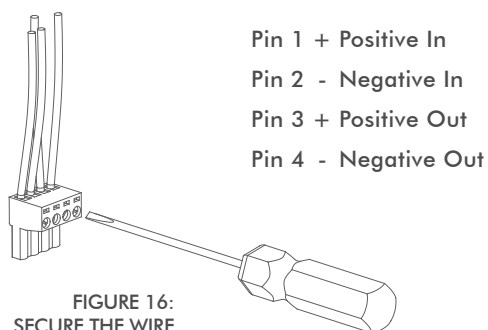

FIGURE 16:
13. Strip approximately .1875" (5mm) of the insulation off each wire. Insert the wire into the correct square opening on the connector. Use a small flat head screwdriver to tighten the corresponding screw to secure the wire. (See figure 16).